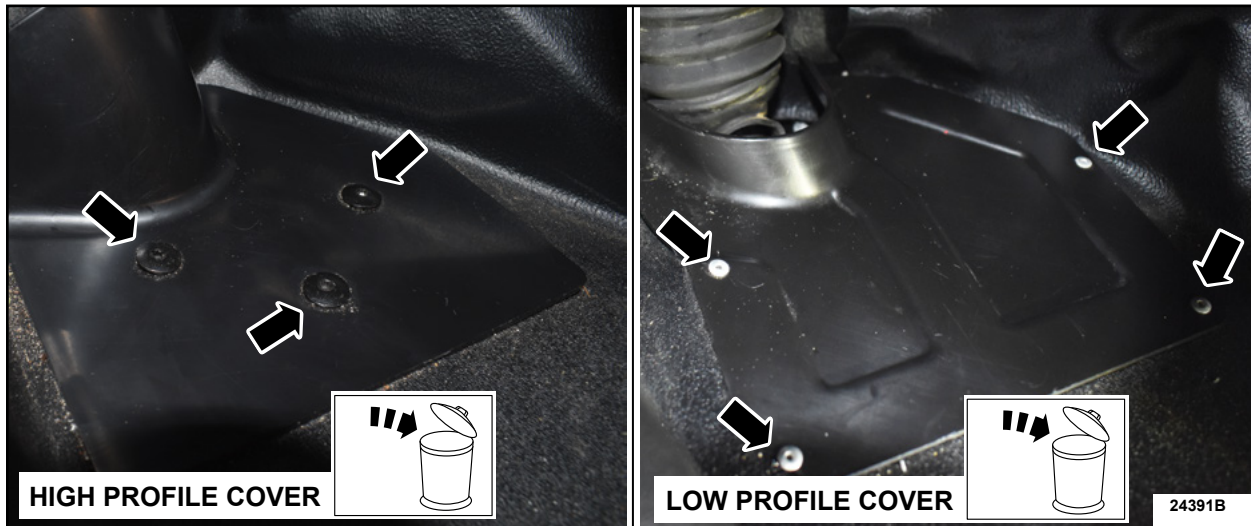

FIGURE 2
- Using a 3/16 in. drill bit, remove the rivets holding down the appropriate steering column shaft protective floor cover as shown in Figure 2. Discard the cover and the rivets.